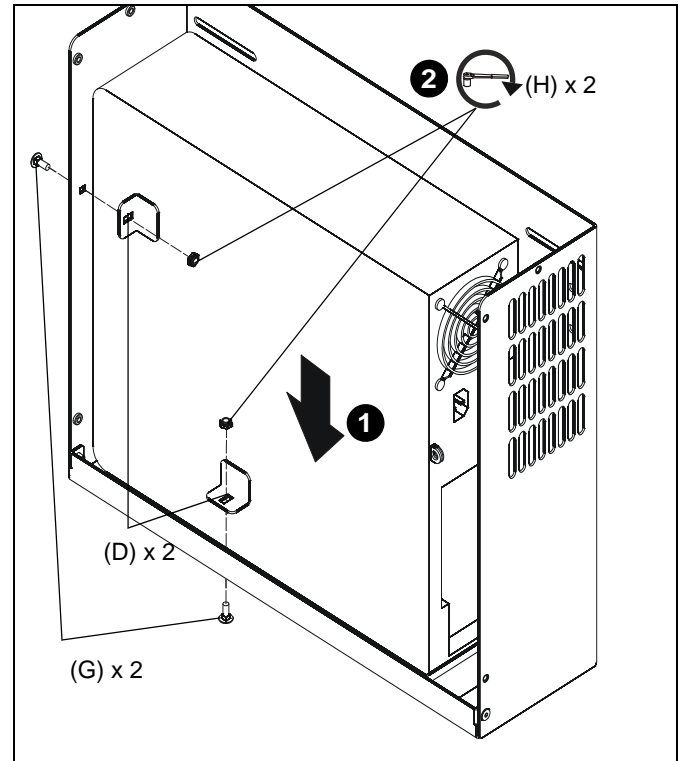

Figure 2
1. Gently set CPU within CPU holder (A) with cables on same side as cable management hole in CPU holder. (See Figure 2)
2. Use 3/8" socket wrench to install two #10-24 x 1/2" carriage screws (G) through CPU holder, CPU brackets (D) and into #10-24 Nylock nuts (H). (See Figure 2)